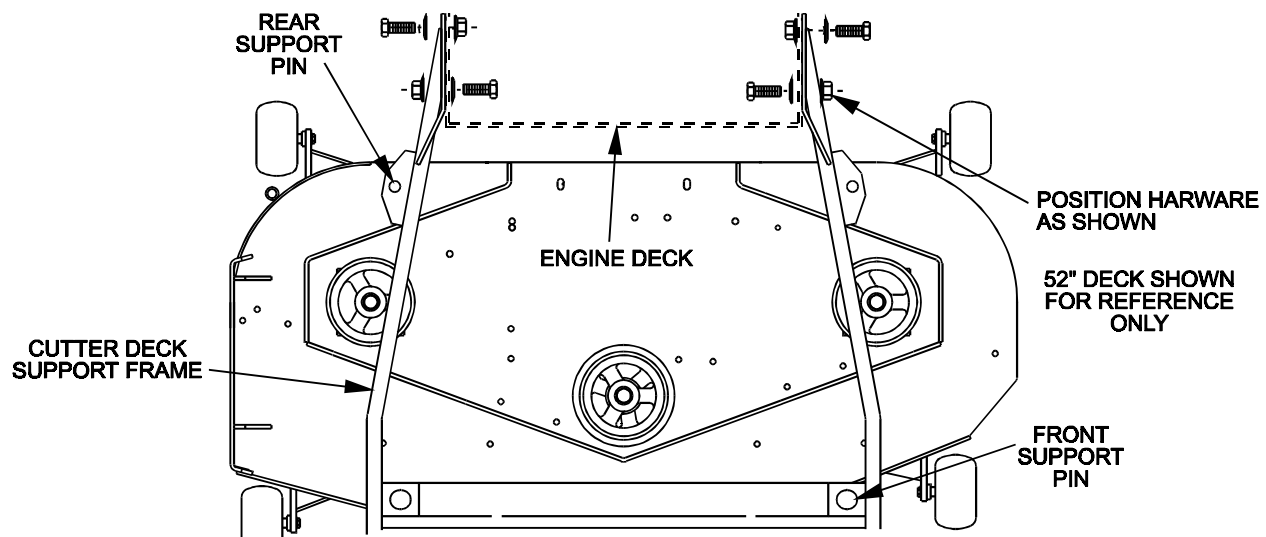

FIG. 1
NOTE: Place spring washer cone against bolt head and install with the whizlock nut to the **inside of engine deck** for the two **rear** holes on both sides. Install whizlock nut to the **outside** for the two **front** bolt holes on each side of the **cutter deck support frame**. (See Figure 1). Tighten until spring washers are flat.
- 3.7.4 Position tractor, with cutter deck support frame in place, over the cutter deck. Align support frame above cutting deck and position it so the support pins on the deck align with the mounting holes in the support frame. Lower support frame onto deck and Reinstall the two hairpins and washers on the front support pins and the two hairpins and washers onto the rear support pins (See Figure 1).